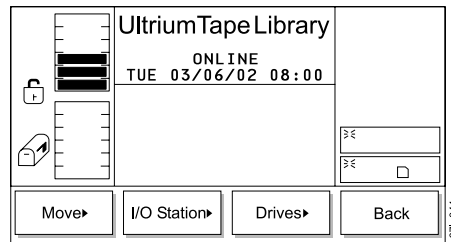

Figure 137. Command Menu
1. From the Main Menu's initial screen, press the button below the **Command** softkey. The Command Menu displays (see Figure 137).